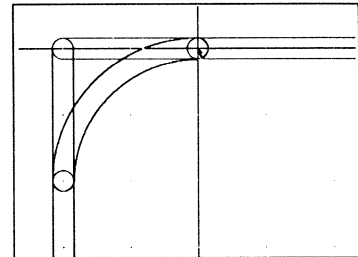

Figure 5-21. Magnified view of arc placement.
2. Move the arc to (0.0500", 0.0000"). The endpoints of the arc align with the top and left outline segments (figure 5-21).